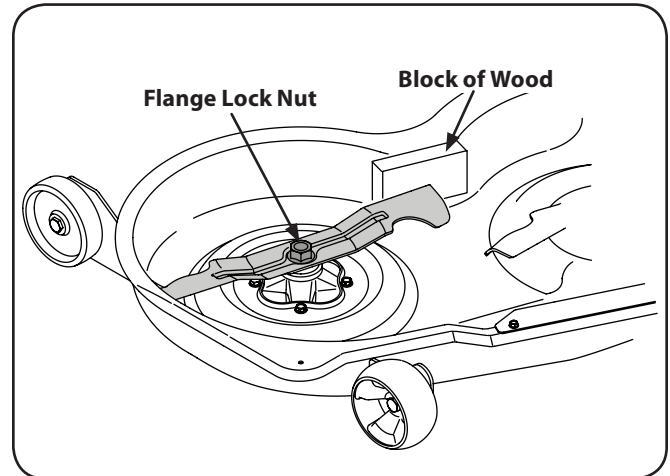

Figure 7-6
3. Remove the flange lock nut that secures the blade to the spindle assembly. See Fig. 7-6.
2. Place a block of wood between the center deck housing baffle and the cutting blade to act as a stabilizer. See Fig. 7-6.